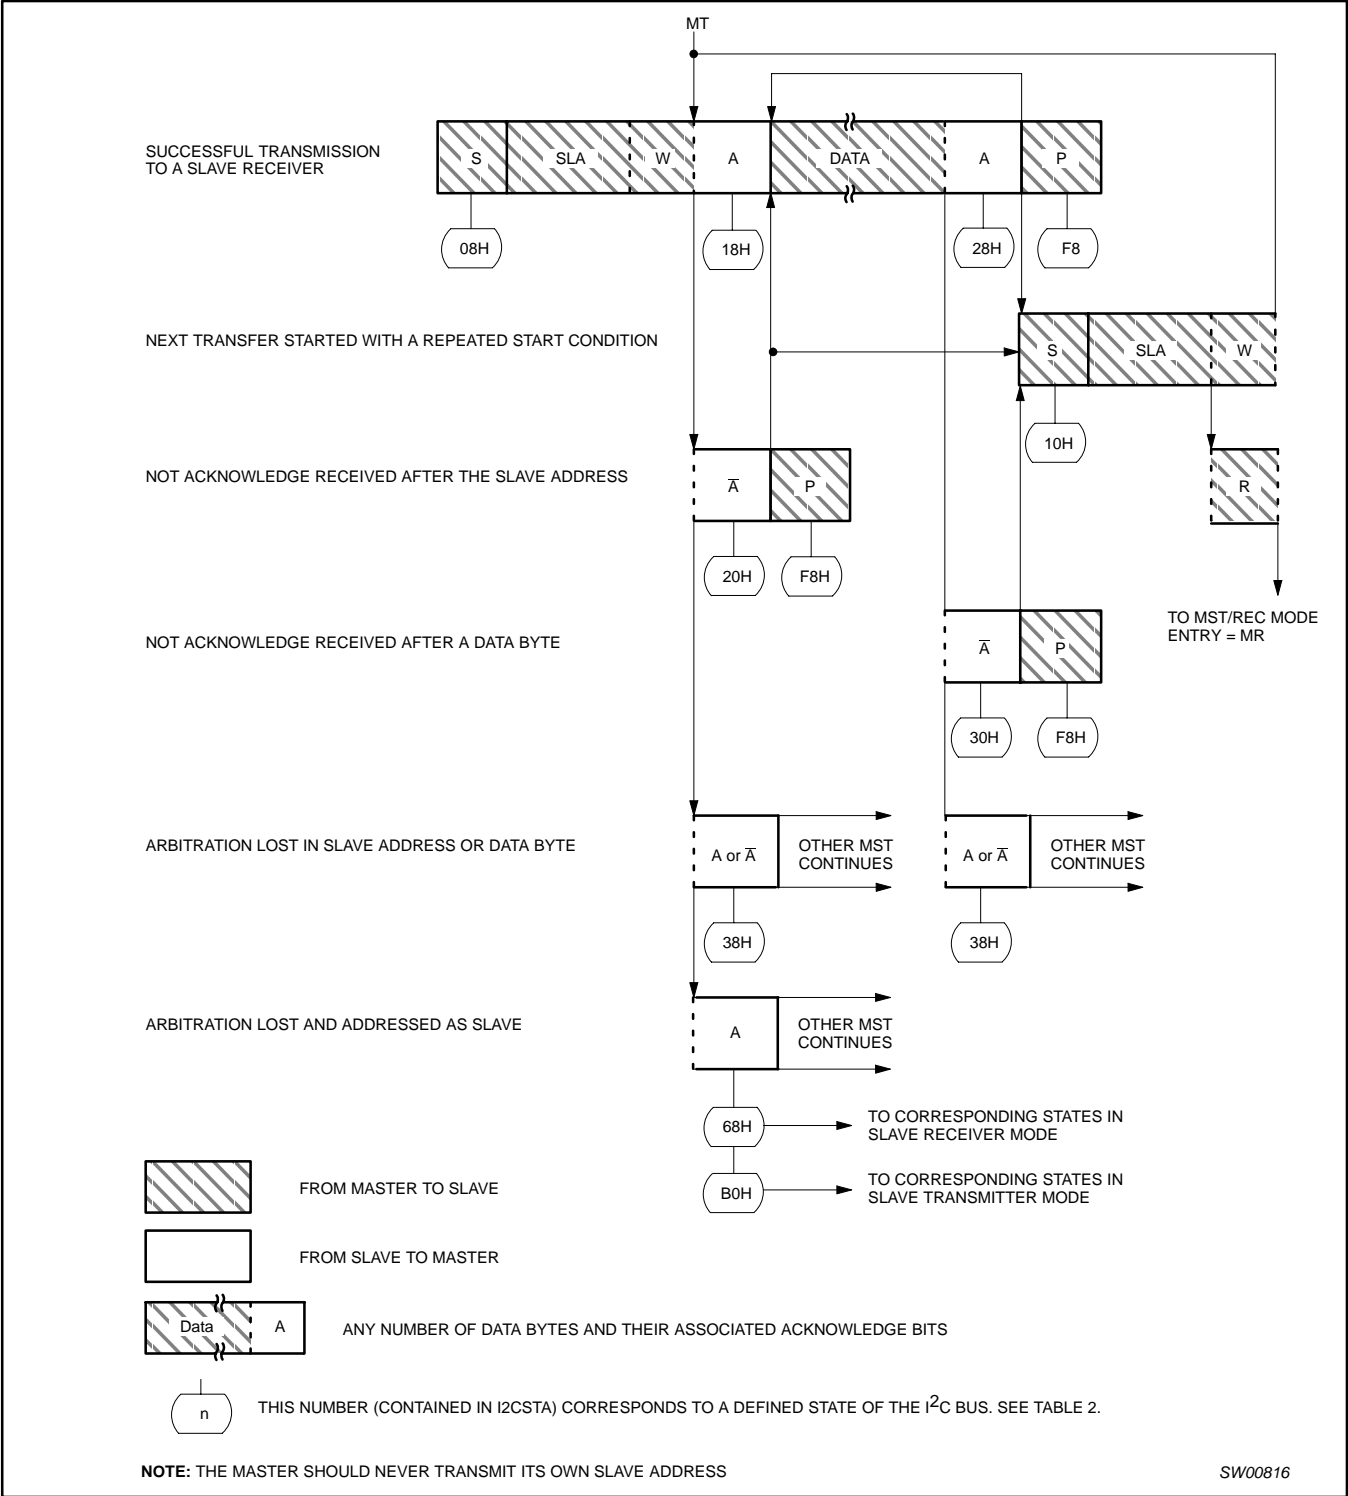

Figure 2. Format and states in the master transmitter mode
**Master Transmitter Mode:** In the master transmitter mode, a number of data bytes are transmitted to a slave receiver (see Figure 2). Before the master transmitter mode can be entered, I2CCON must be initialized as follows: